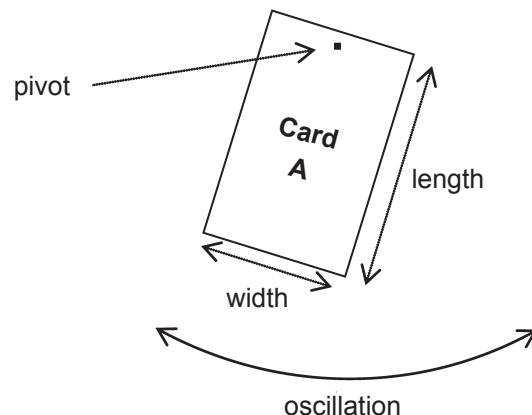

Fig. 2.1
- (i) 1. Measure the length of Card A, see **Fig. 2.1**, and input the value into column 2 of **Table 2.1**.